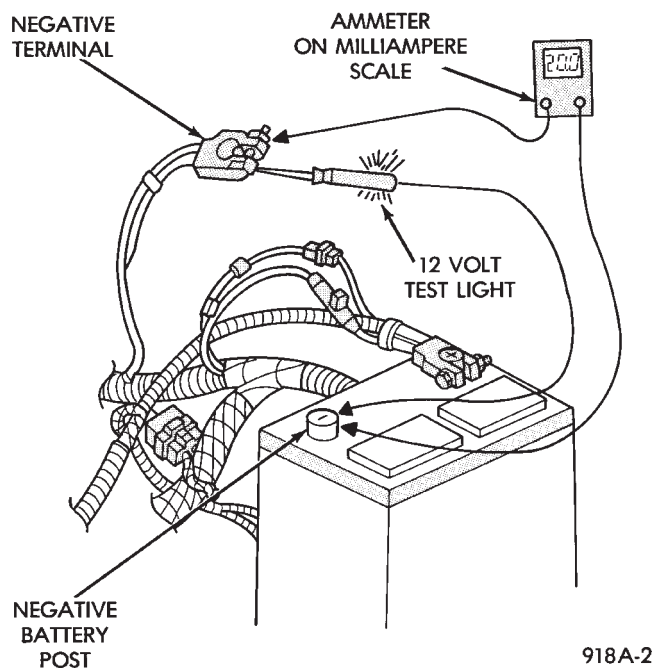

Fig. 19 Low Amperage IOD Test
(5) With test light still connected, connect milliamp meter between battery negative post and negative battery cable (Fig. 19). Do not open any doors or turn on any electrical accessories with the test light disconnected and the milliamp meter connected. Meter may be damaged.